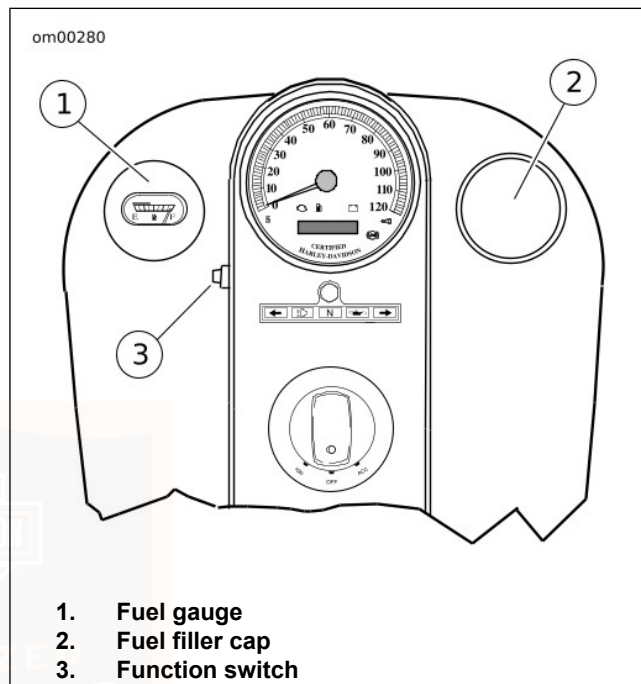

Figure 11. Fuel Tank: FLHR
- *See Figure 11. FLHR model fuel filler cap is located on the right side of the fuel tank. The cap on the left side is the fuel gauge and is not removable.*